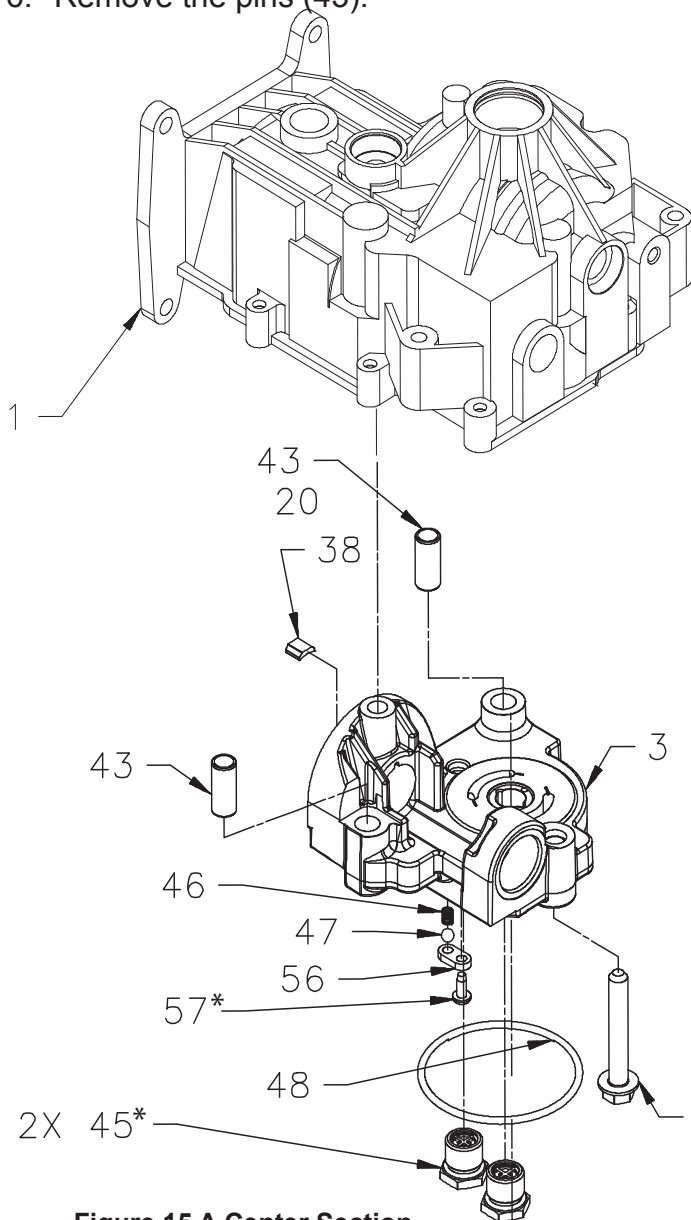

Figure 15 A Center Section
1. Inspect the center section block running surfaces. *Note:* These “sealing” surfaces (see Figure 15 B) should be smooth in appearance without scratches, scoring, nicks or abrasions. Drag a fingernail across the surface to detect uneven wear or scratches which may not be visible.